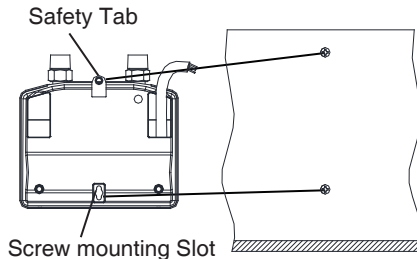

Fig 5
3. Ensure water heater is level and secure on wall. (Fig 5)